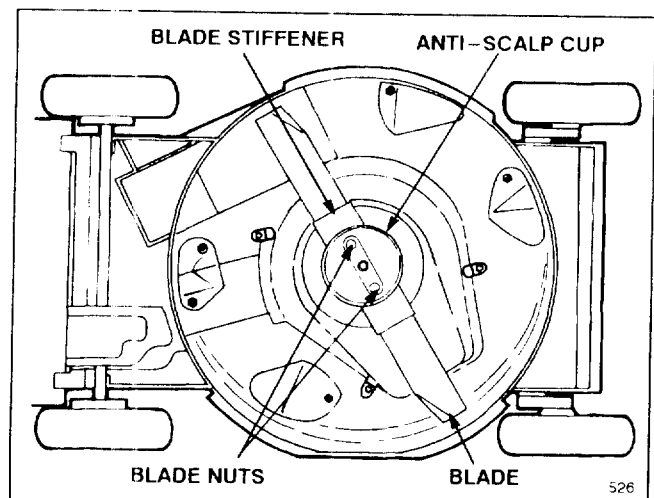

Figure 24
3. Tip mower on its left side (Fig. 24).
5. **REMOVING BLADE**—Grasp end of blade using a rag or thickly padded glove. Remove blade nuts, anti-scalp cup, blade stiffener, and blade (Fig. 24).